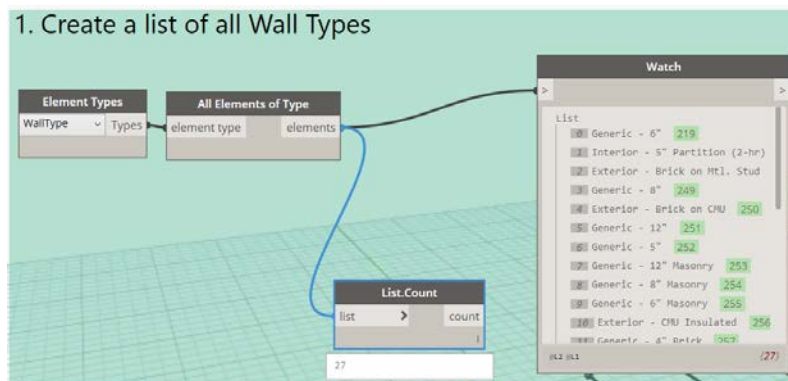

Figure 44
29. Wire them up as shown in Figure 44.